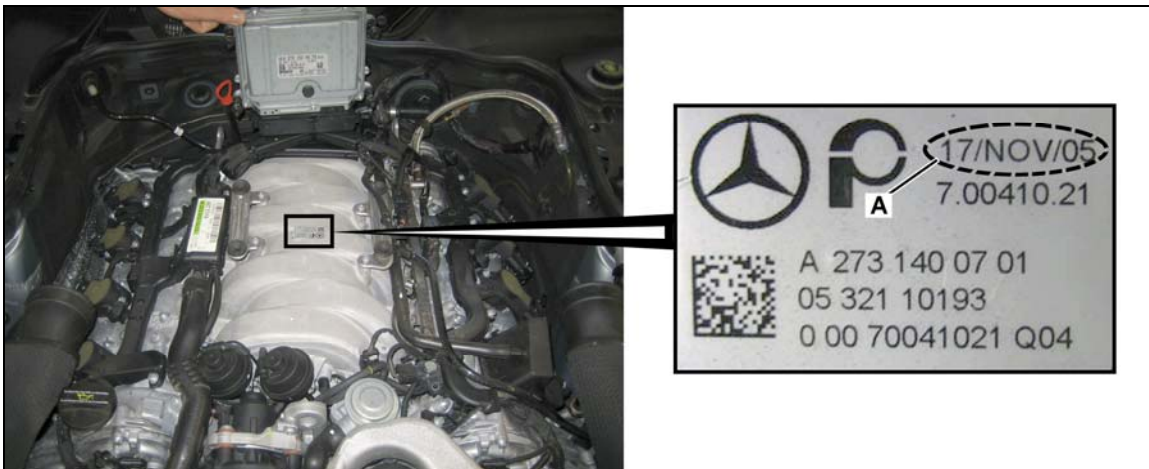

Figure 1
5. Check production date of intake manifold (A, Figure 1).